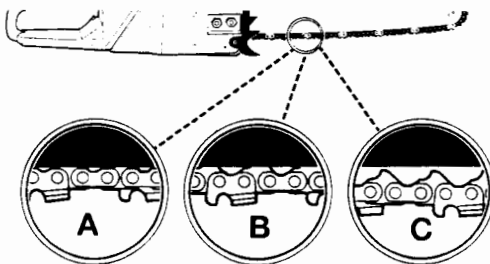

Fig. 23
CAUTION: If saw chain is **TOO LOOSE** or **TOO TIGHT**, the sprocket, bar, chain, and crankshaft bearings will wear more rapidly. Study Fig. 23 for information concerning correct cold tension (A), correct warm tension (B), and as a guide for when saw chain needs adjustment (C).